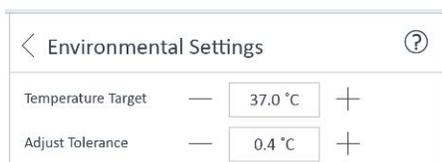

Figure 19. Temperature target setting.
To access the **System Settings** page, go to the Home page and select **Settings > System Settings**. (Figure 19)
**Temperature target:** Adjust the tray temperature on the XF HS Mini Analyzer. See Figure 19.